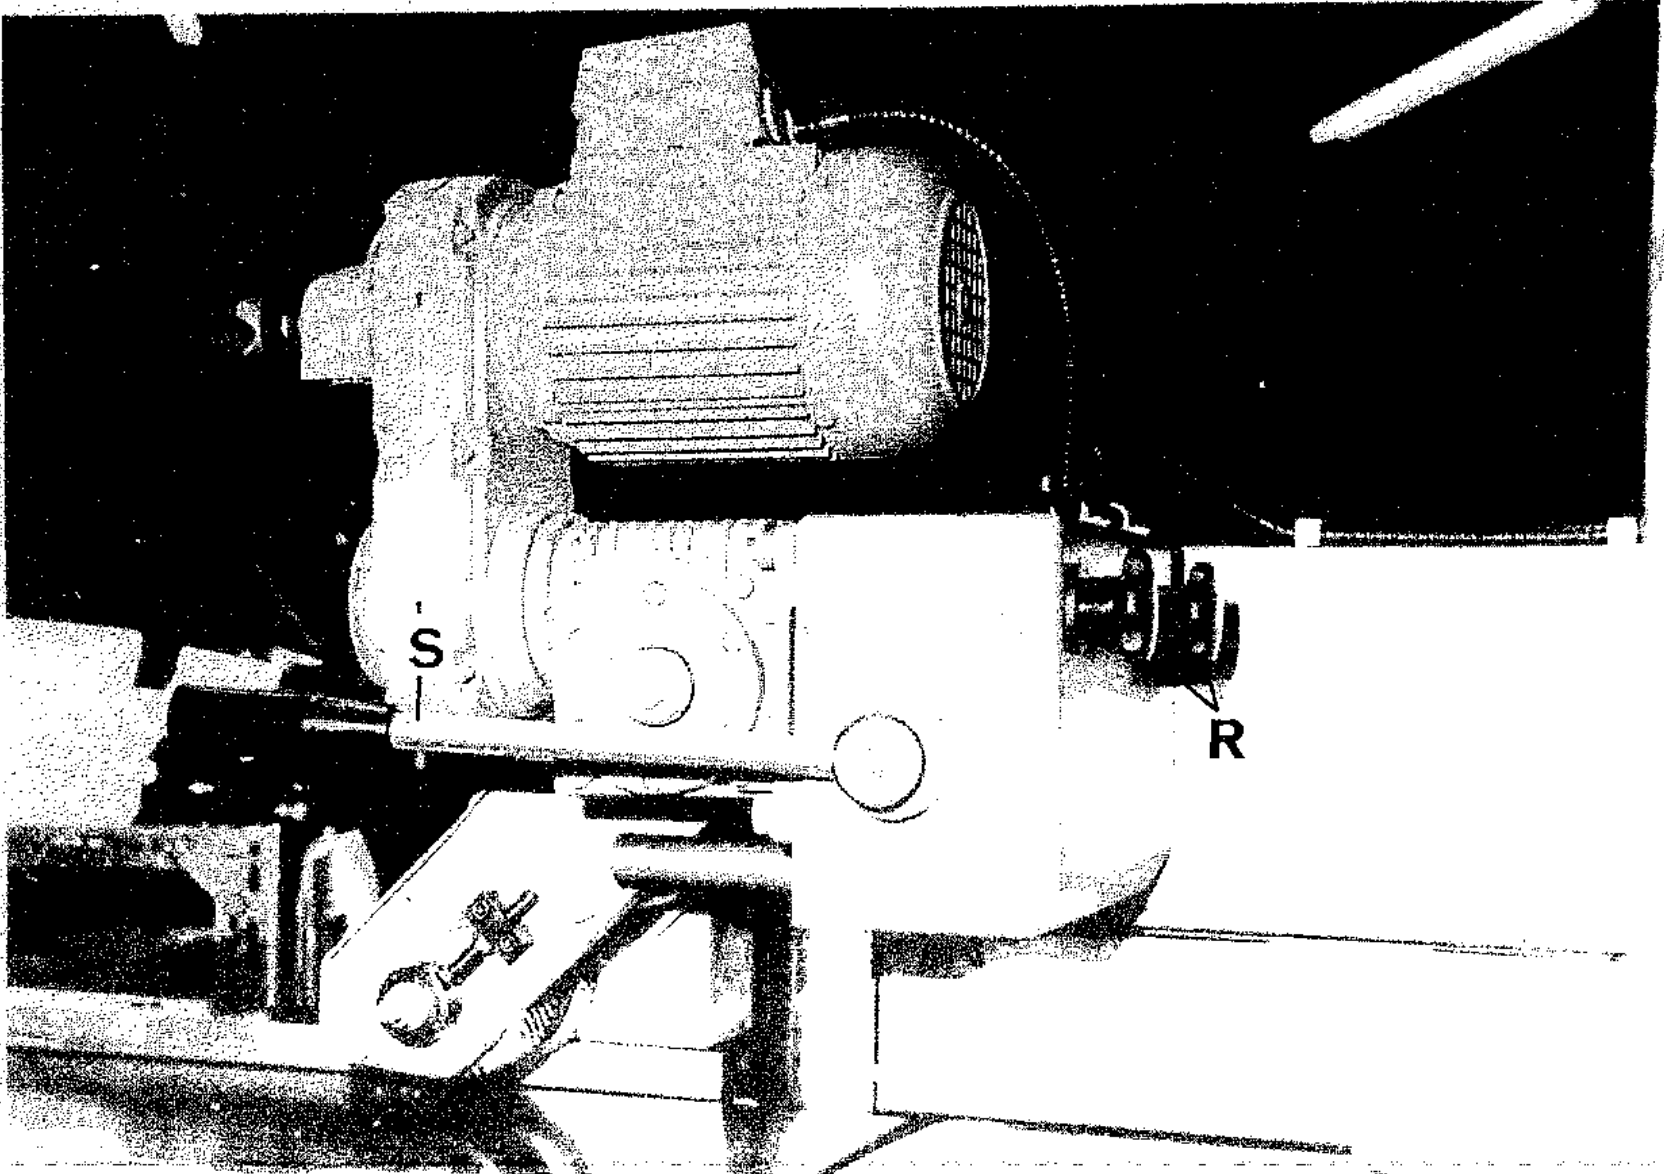

FIG.14
- a) Adjustment of feed unit for different widths of stock, loosen locking handwheels "R" FIG.14.
- c) Adjustment of feed unit for different depths of stock, raise or lower hand lever "S" FIG.14.